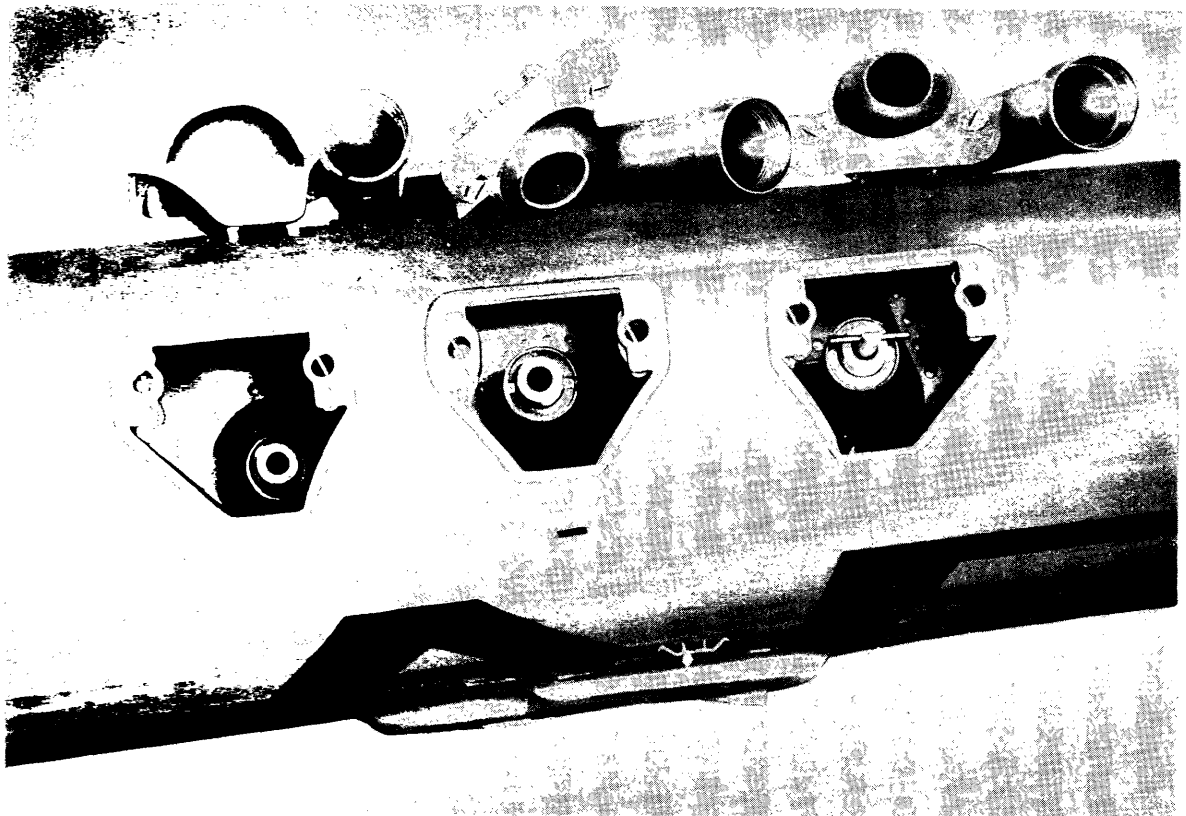

Figure 99 - Registering Rod Inserted in Gun Barrel
- (d) **Figure 99.** - Insert registering rod in gun barrel.